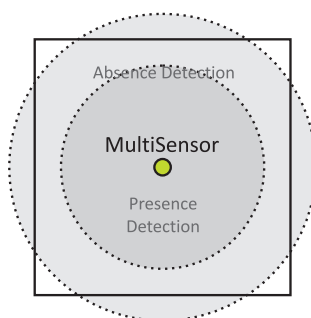

Figure 1.
- » Dual motion detection allows two selectable sensitivity and range settings to be stored, i.e. Absence Detection and Presence Detection (see figure 1).